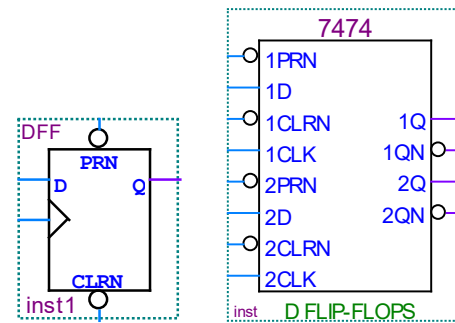

Figure 3: Two D-FF available in Quartus.
- c. Design the required counter circuit in Quartus (called `Lab3_2bit_Cnt`). (I suggest that you do it first on paper, but this is not required and will not be submitted.) I recommend that you use “primitives | storage | dff” available in Quartus, shown on the left in Figure 3 or “others | maxplus2 | 7474” on the right in Figure 3.